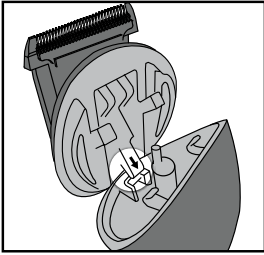

Fig. 1.
- To attach a head, line up the back of the attachment head with the holding section on the trimmer (Fig. 1).